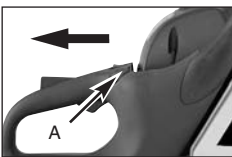

Abb. 9B
2. Pull out the choke (A) to the point where it latches in place (Fig. 9B).